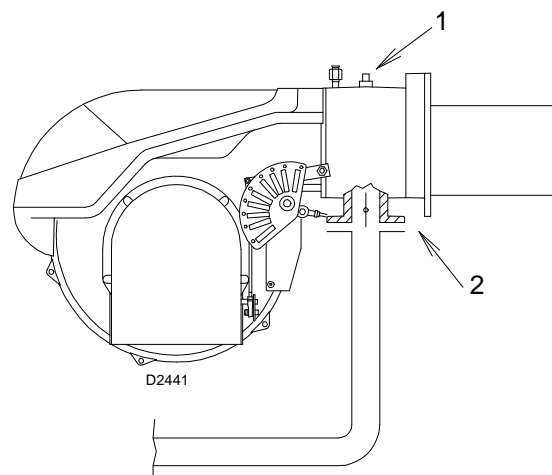

Fig. 30
Gas manifold pressure measured at test point 1) (Fig. 30), with:
- subtract the combustion chamber pressure from the gas pressure measured at test point 1)(Fig. 30).
- Gas pressure at test point 1)(Fig. 30) = 8.0" WC